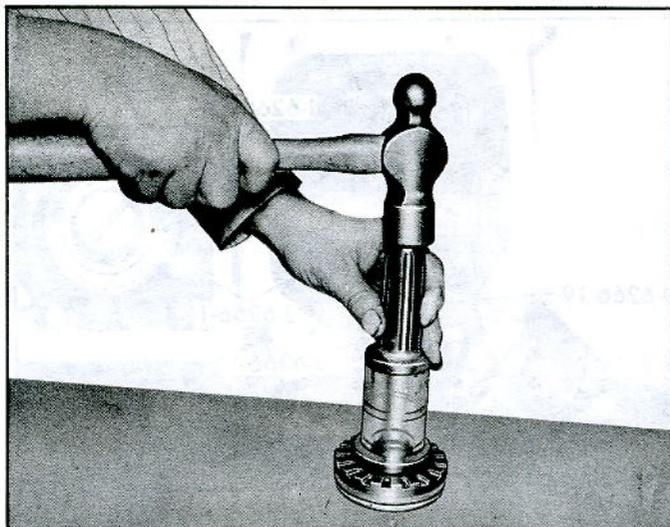

Fig. 24—Installing Pinion Front Oil Seal—Automatic Transmission Only
3. On automatic transmission units, install new seal with J-8340 (fig. 24).